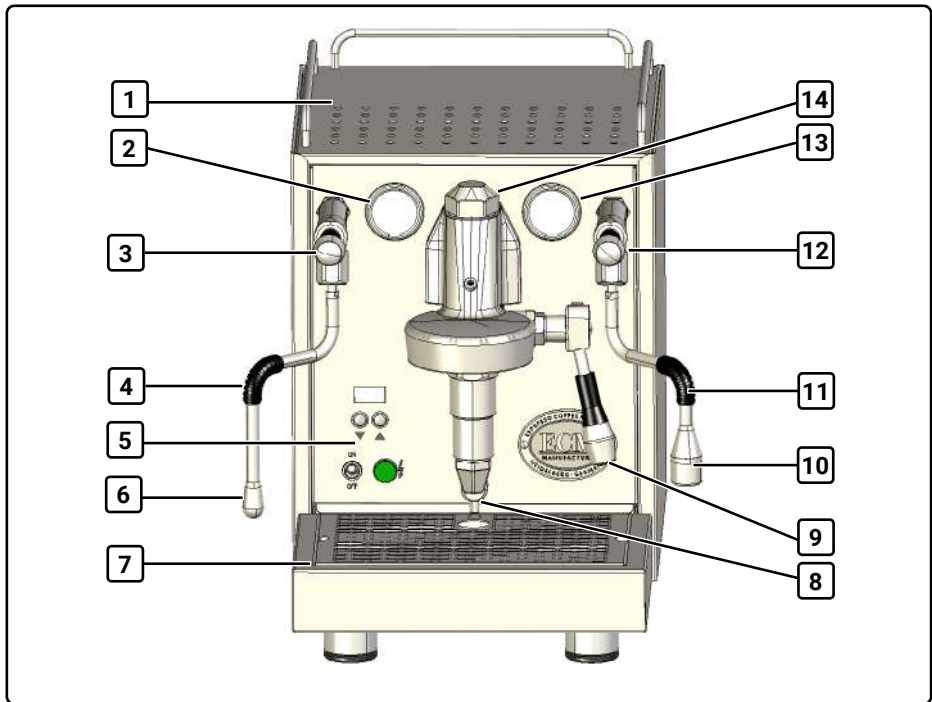

Fig. 1 Structure and components
1. Press the main switch (1, Fig. 1).
The steam tilt lever (1, Fig. 1) is used to open and close the steam wand for drawing hot steam.